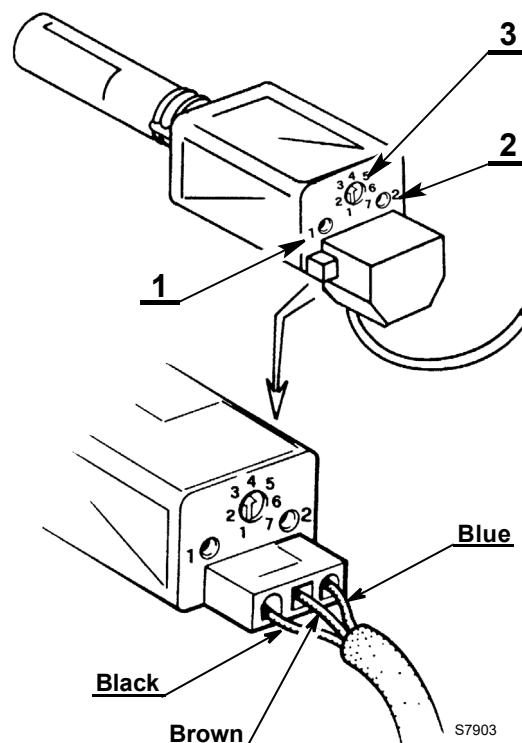

Fig. 14
- a potentiometer 3)(Fig. 14) for adjusting the sensitivity.
- Led 1)(Fig. 14) indicates the sensitivity.
- Led 2)(Fig. 14) indicates its operation.
- turn the indicator of the potentiometer 3)(Fig. 14) anticlockwise until the LED 1)(Fig. 14) blinks, thereby defining the minimum value of the notch.
- Turn the indicator of the potentiometer 3)(Fig. 14) clockwise until the LED 1)(Fig. 14) is on and fixed. Consider the setting final as the minimum value detected by increasing by one or two notches.